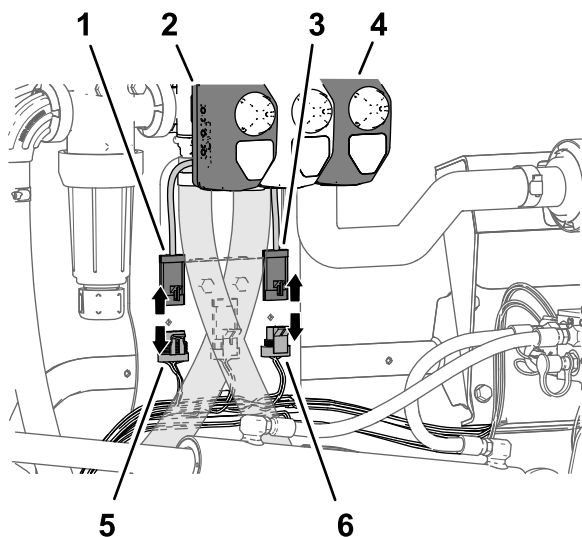

Figure 32
2. Disconnect the 4-socket connector of the machine wire harness labeled RATE VALVE from the 4-pin connector of the rate-valve actuator (Figure 32).
VALVE from the 3-pin connector of the master spray-valve actuator (Figure 32).